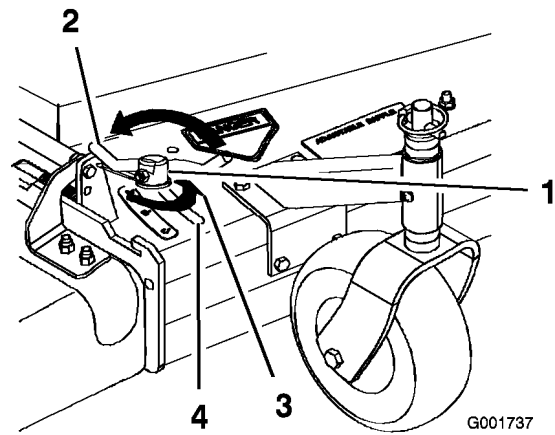

Figure 14
3. To adjust the cam lock, swing the lever up to loosen the cam lock (Figure 14).
5. Swing the lever back over to tighten the baffle and cam lock (Figure 14).